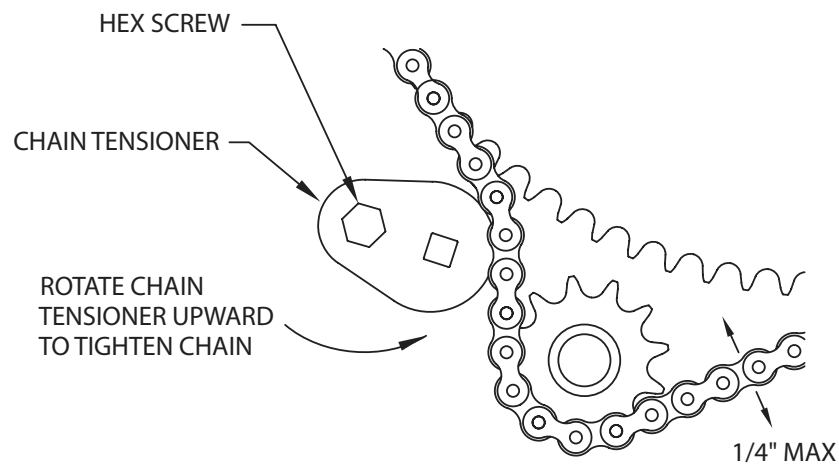

Figure 31
- To adjust, loosen hex screw with  $\frac{3}{4}$ " wrench and rotate chain tensioner toward chain as shown until chain moves no more than a total of  $\frac{1}{4}$ ". See Figure 31 below.